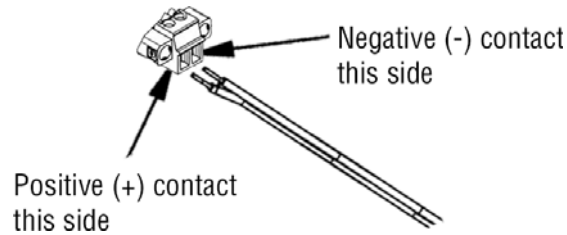

Figure 14. Power source leads installation
3. Insert the positive lead into the opening on the terminal block labeled + and the negative lead into the opening on the terminal block labeled - (see figure 14).